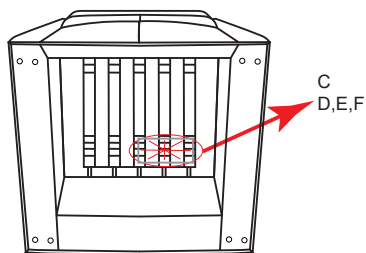

Figure 1
Detach the Legs (C) and Hardware (D E F) from the bottom of the Seat (B). (See Figure 1.)